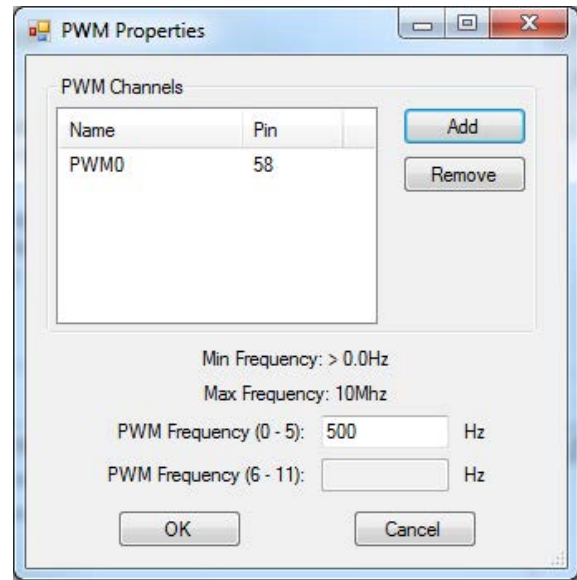
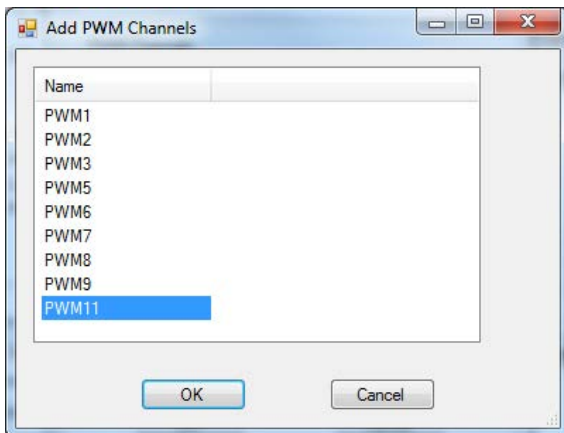

Figure 2-5 - PWM Properties
Figure 2-6 - Add PWM Channels
4. The PWM Properties window will open. Refer to Figure 2-5. The channels listed were previously configured. To add additional channels, click the **ADD** button. The Add PWM Dialog will open. Refer to Figure 2-6.
6. Enter the base PWM frequency for the channel groups as needed (channels 0-5 use one frequency while channels 6-11 use another frequency setting. PWM channels in each group are based on the frequency for each group. The frequencies may be the same, but the frequency must be entered in both boxes. Refer to Figure 2-5.